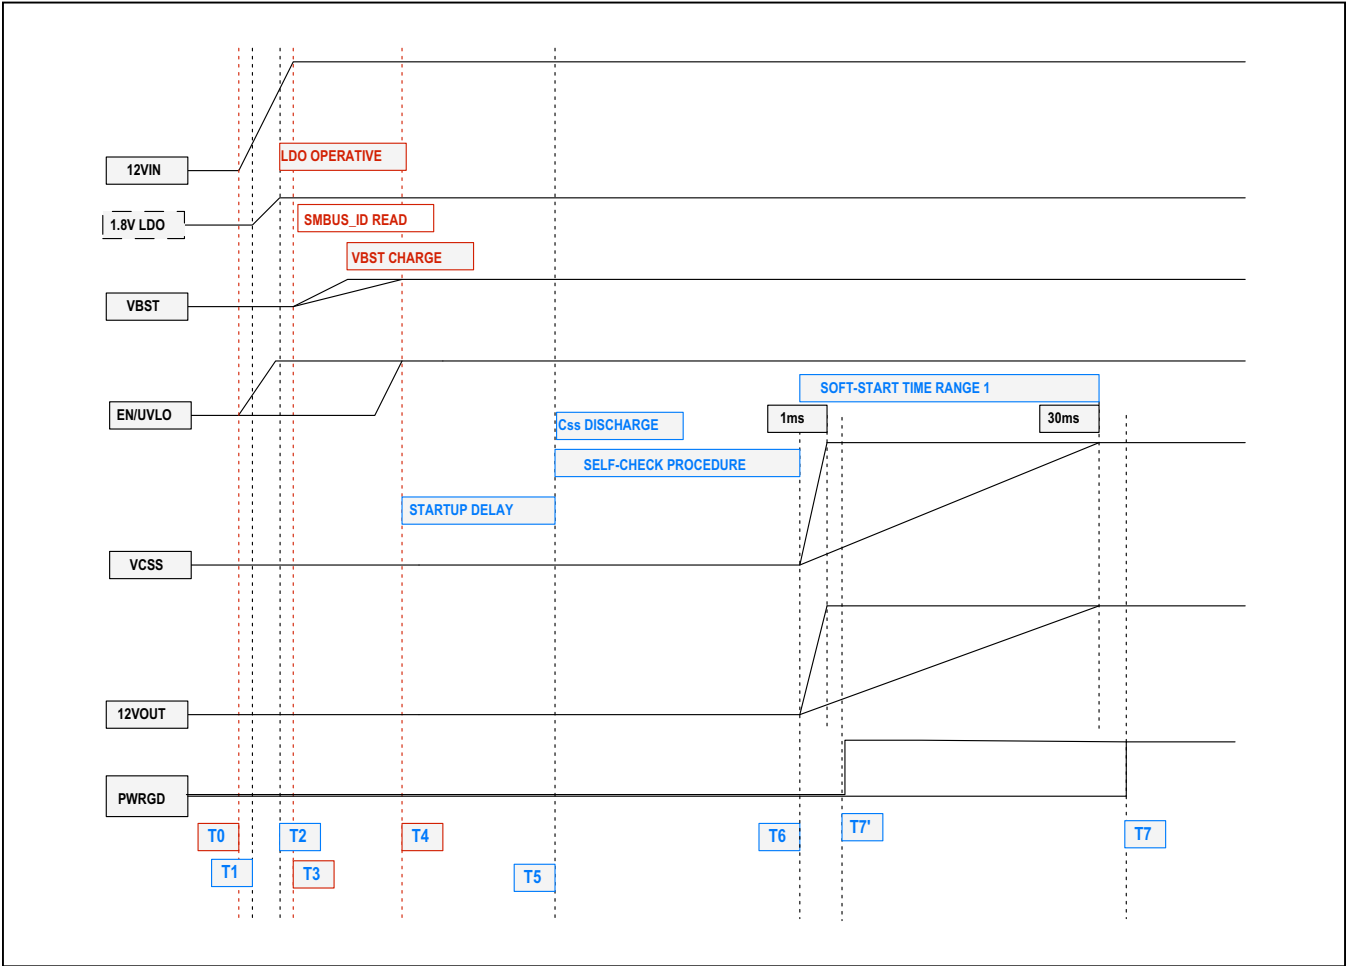

Figure 3. Startup Timing Diagram
**Table 1. Timing Diagram Example Shown in Figure 3**